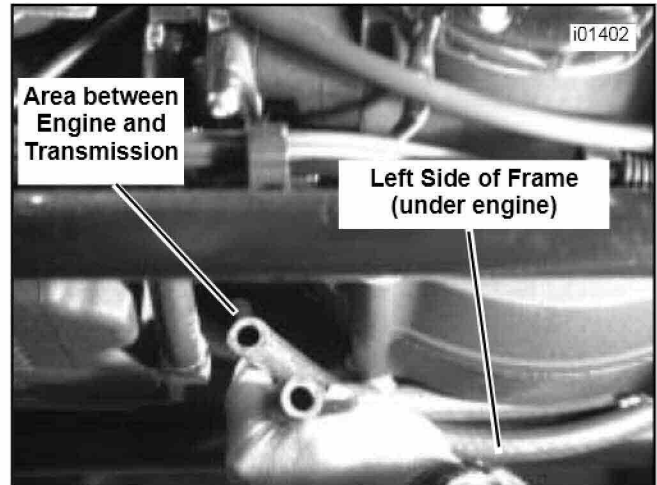

Figure 4. Hose Routing
- Route both hoses along left side of frame back to engine-transmission joint as shown in Figure 4. Cable strap hose in place.
- See Figure 4. Route hoses under the engine at this area (near oil drain plug) through the gap between the engine and transmission.
13. Route both hoses along left side of frame back to engine-transmission joint as shown in Figure 4. Cable strap hose in place.
14. See Figure 4. Route hoses under the engine at this area (near oil drain plug) through the gap between the engine and transmission.